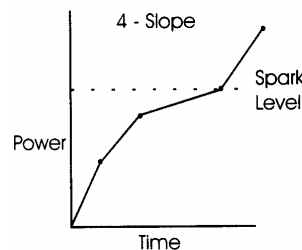

Figure 3-4
- **4 Slope:** performs four different ramp rates from setback to pre-spark levels for a recovery rate similar to that in fig. 3-4. It yields more average power than the 3 Slope ramp.